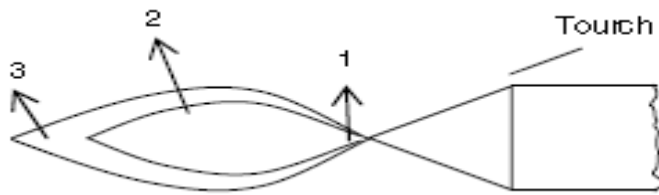

Fig :3.3 : Gas Welding Flame Zones
- A general nomenclature of the flame established in oxy-acetylene welding is given in Figure 3.3.